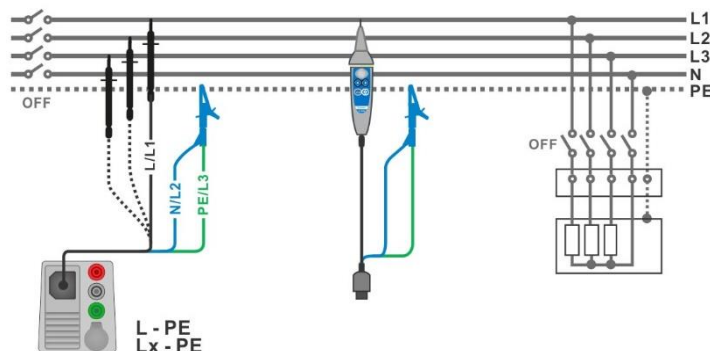
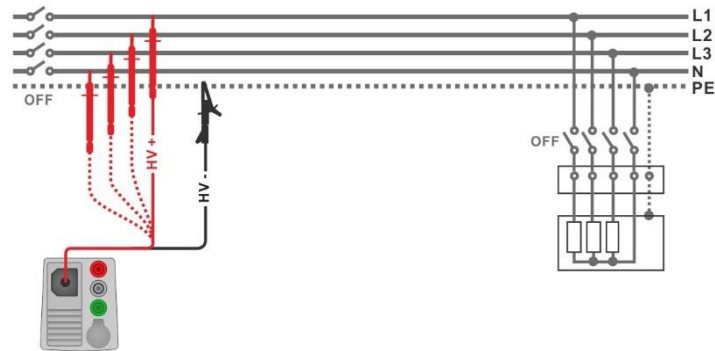

Figure 7.15: Connection of 3-wire test lead and Tip commander ($U_N \leq 1 \text{ kV}$)
Figure 7.16: Connection of 2.5 kV test lead ($U_N = 2.5 \text{ kV}$)
- ▶ Connect test leads to object under test (see **Figure 7.15** and **Figure 7.16**).